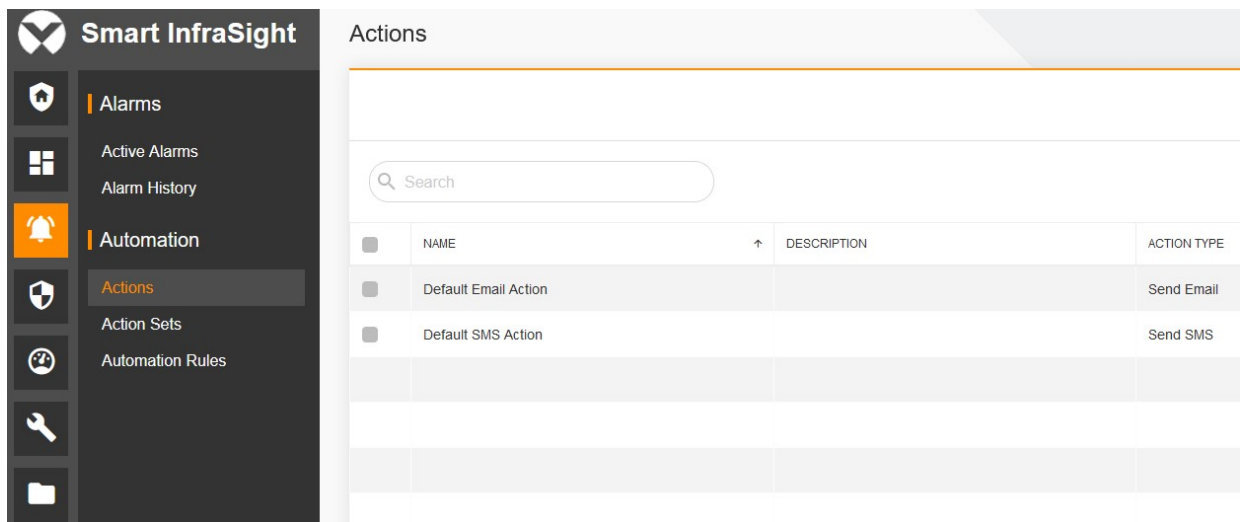

Figure 16-5 Actions page
1. On Smart InfraSight, choose **Alarms > Automation > Actions**. The **Actions** page is displayed by default, as shown in Figure 16-5.